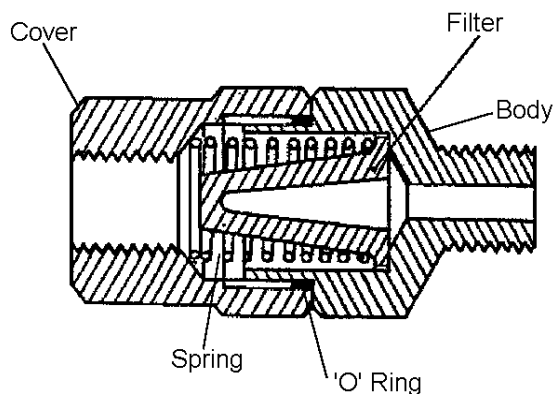

Figure 1: Arrangement of Air Line Filter
1. Unscrew the body from the cover. See Figure 1.